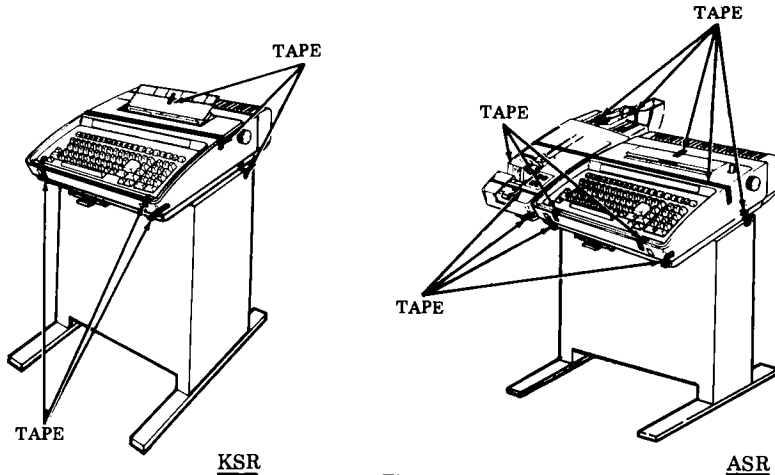

Fig. 1
3.04 Unpack the carton referring to instructions on the container. Remove tape securing the cover to the housing and if ASR also remove tape securing the PT unit. See Fig. 1.